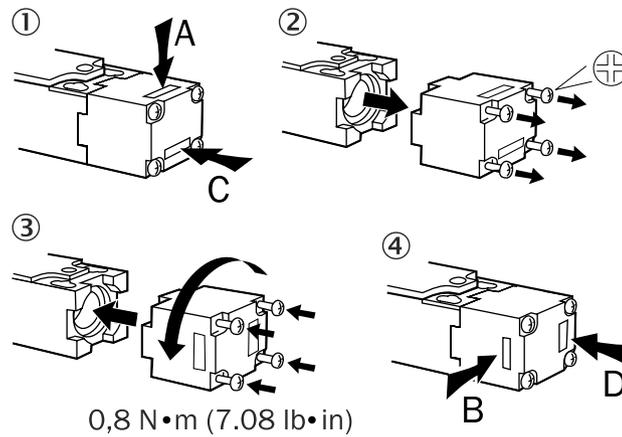

Figure 4: Reversing the actuating direction
- ▶ Undo screws on the switch head (see figure 4, page 9).